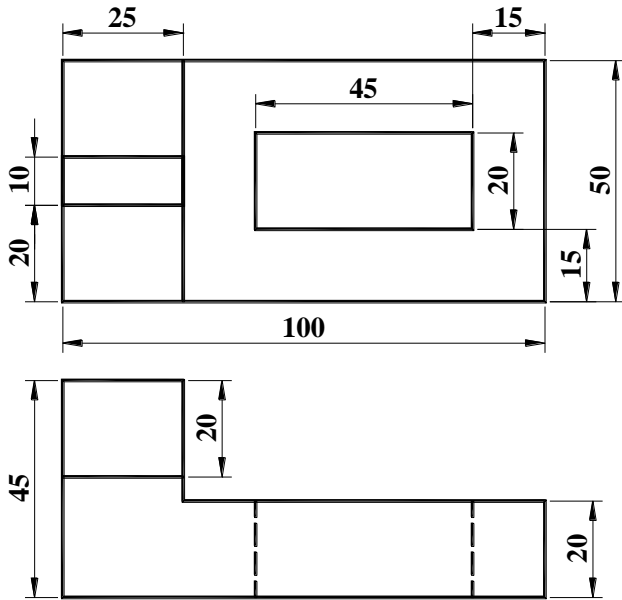

Figure T1.1a
1. Draw the isometric drawings from the given orthographic views in *Figure T1.1a* to *T1.1f*.